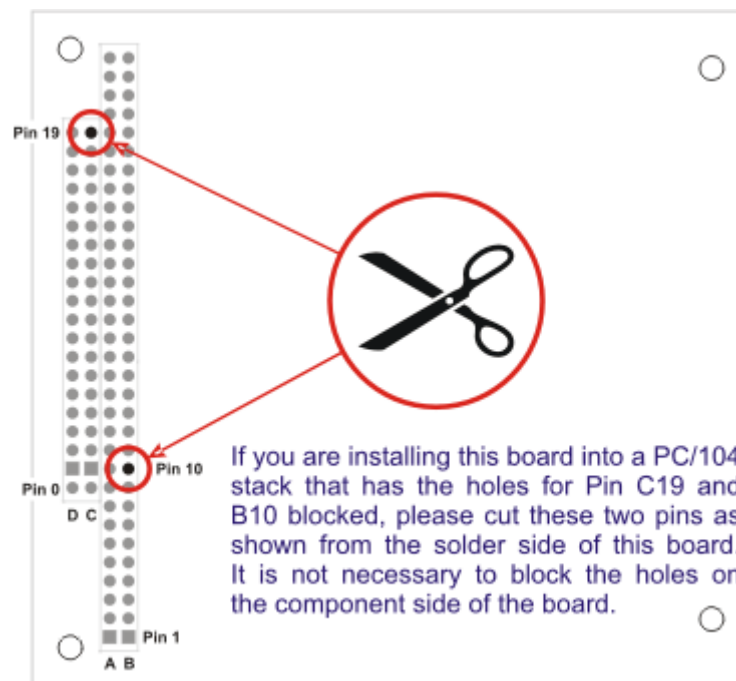

Figure 2-1: PC/104 Key Information
- Figure 2-1: PC/104 Key Information 8